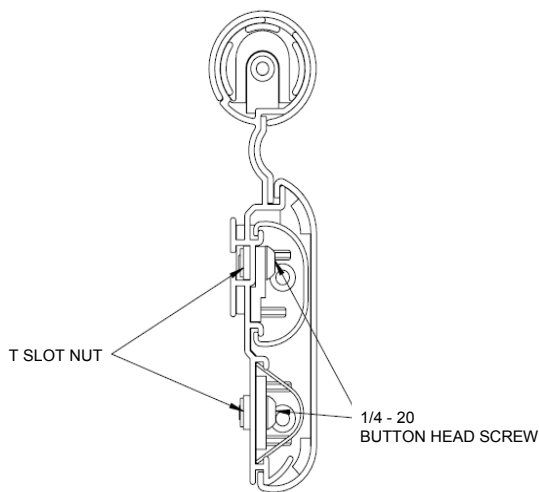

Figure 6
*Caution:* Do not use a lock washer, use flat washer only. Always place a flat washer between the nut and the molded tab. Tighten to 10 ft-lbs maximum torque (See Figure 6).